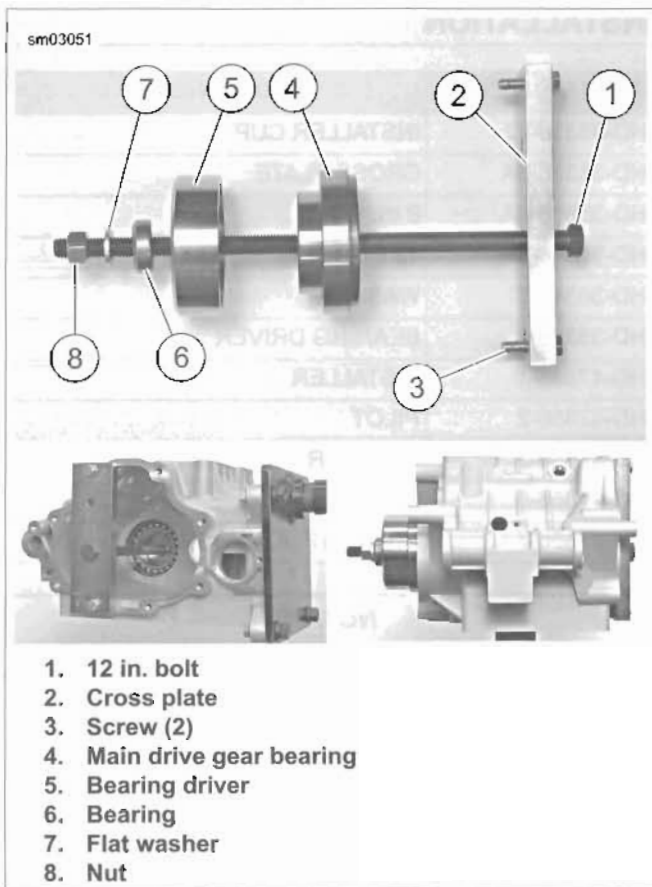

Figure 6-42. Installing Main Drive Gear Bearing (Typical)
1. See Figure 6-42. Place CROSS PLATE (Part No. HD-35316-3A) (2) on right side of transmission case as shown, and secure with two screws (3). Position cross plate with large bolt hole in cross plate aligned with main drive gear bearing bore.
2. Apply a light coat of graphite lubricant to the threads of 12 IN. BOLT (Part No. HD-35316-5) (1) and install through cross plate and main drive gear bearing bore.
3. At left side of case, place main drive gear bearing (4), BEARING DRIVER (Part No. HD-35316-8) (5), BEARING (6), FLAT WASHER (7) and NUT (8) over end of bolt.